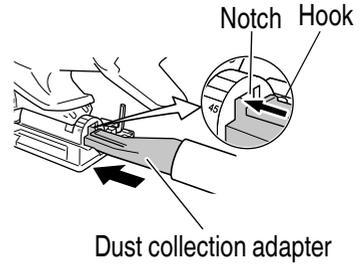

Fig. 37
- (6) Insert dust collection adapter into the rear hole of the base until the hook catches in the notch. (**Fig. 37**)
- (7) Press the hook to remove the dust collection adapter.